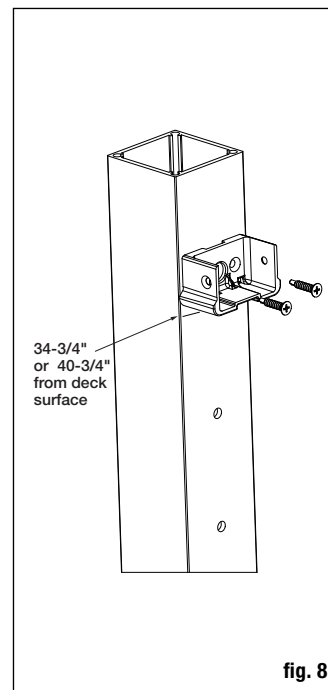
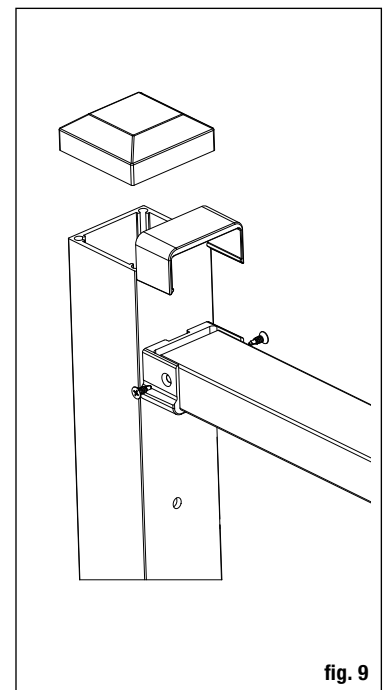

fig. 8
fig. 9
Step 7 Measure up 34-3/4" (36" railing) or 40-3/4" (42" railing) from the deck surface and make a mark on the post. Position the upper bracket base onto the mark, centered with the post as shown. Mark the two hole locations. Drill Pilot holes in these locations using a 1/8" bit. Secure the bracket base with (2) #10 x 1" bracket post screws (D). Repeat with the other bracket base on the opposite end Post. *Tip: Use a driver extension bit to avoid marring the rail with the drill chuck. Install all rails prior to installing cable.* (fig. 8)
Step 8 A cable spacer (F) is needed at least every 3 feet (1 is included in the 6ft kit, 2 in the 8ft kit). Attach spacer connectors (G) to the bottom of the top rail. Pre-drill using a 1/8" drill bit. Attach the spacers to the spacer connectors. Mark the location of the spacer on the deck surface and attach the other spacer connector to the deck using the included #8 x 1" connector screws (H).
Step 9 Set the railing section back onto the installed bracket bases so that the cable spacers are set onto the spacer connectors previously attached to the deck surface. Using a 1/8" drill bit, drill pilot holes in the rails through the side bracket holes. Secure the rails to the bracket bases using the provided (2) #8 x 1/2" bracket rail screws (E) as shown. Place the bracket caps onto the bases as shown (fig 9).